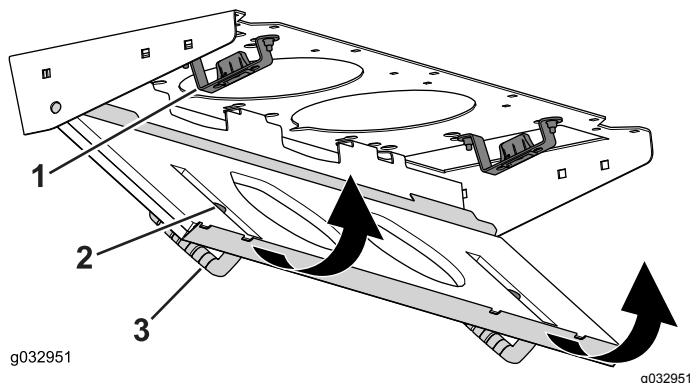

Figure 144
4. Rotate the filter screen around the tabs until the latch locks into the latch-mount assembly (Figure 144).